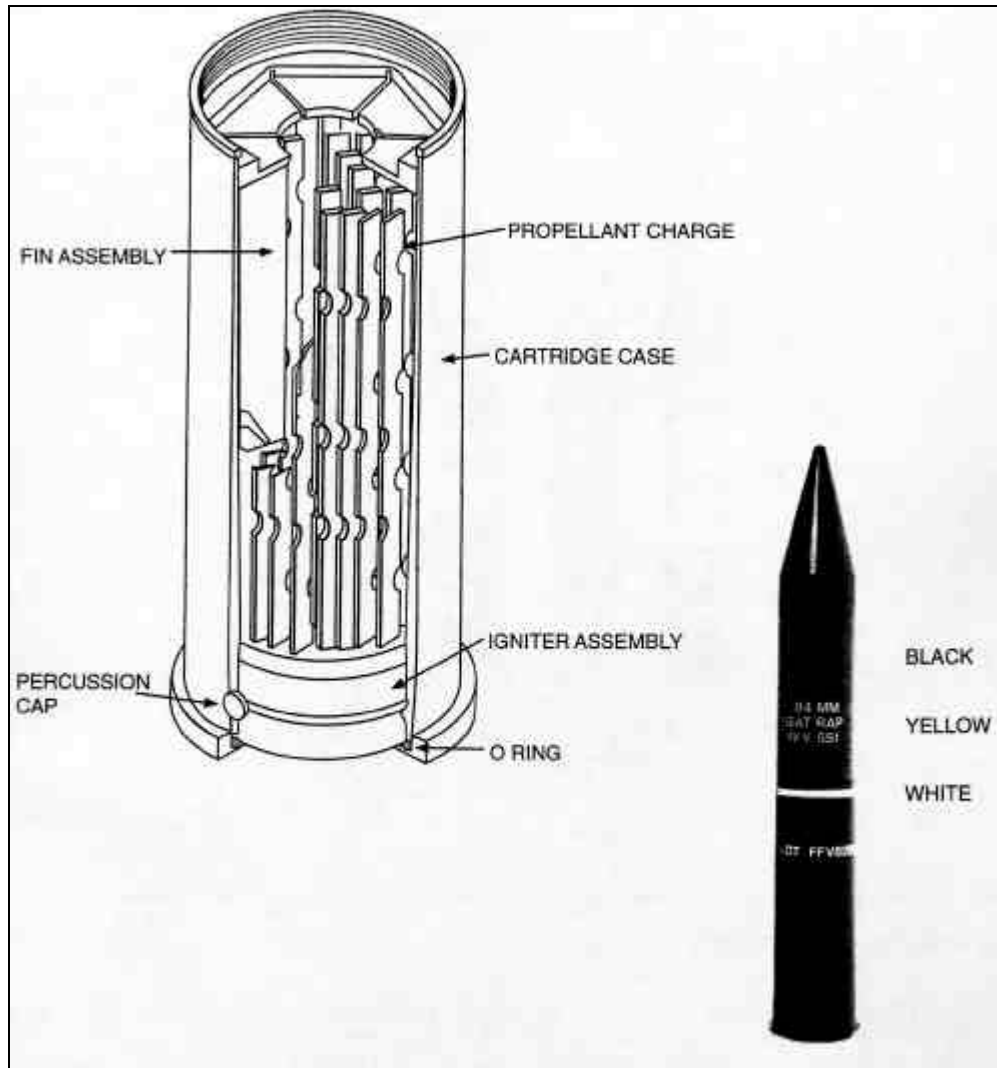
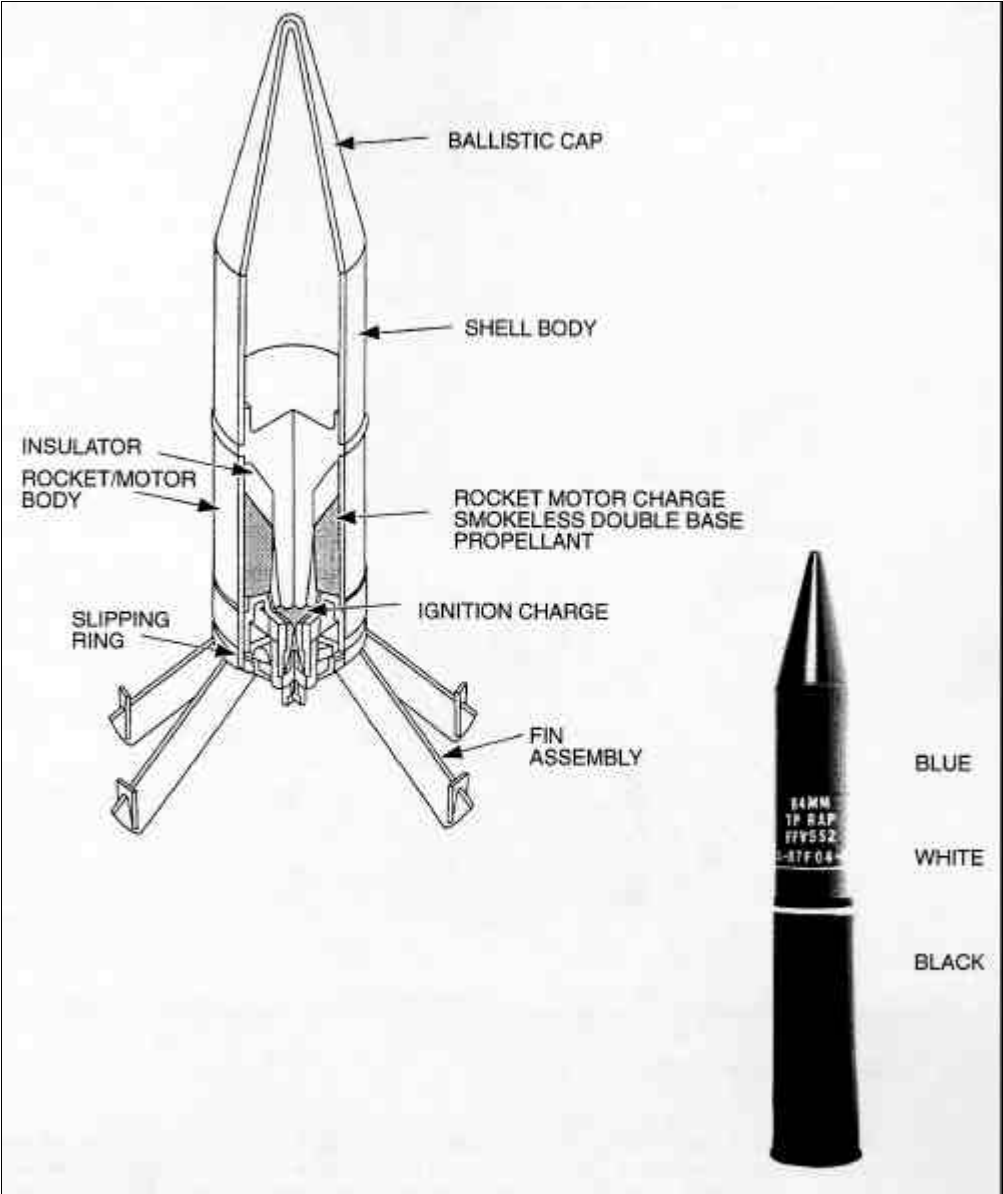

Figure 2-1-3 Cartridge Case Assembly FFV 551, w/Colour Code
Figure 2-1-5 Shell 84mm TP RAP FFV 552 (w/fins deployed) w/Colour Code
- b. **TP RAP FFV 552 (Target Practice Rocket Assisted Projectile).** The FFV 552 practice projectile resembles the HEAT counterpart only in the area of the rocket motor and aft closure. The remaining components are largely made from aluminum alloy and contain no explosives. The round is coloured (LIGHT BLUE) and is marked with (WHITE) stencilling and a white band. The cartridge case assembly for 84mm TP RAP FFV 552 consists of the exact same parts as the HEAT RAP FFV 551, Figure 2-1-3, and the shell assembly consists of the elements shown in figure 2-1-5.